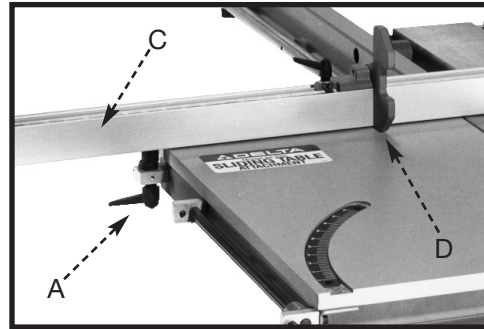

Fig. 69
3. Slide the fence (C) Fig. 69 back on the fence clamps and tighten the lock handles, one of which is shown at (A).
NOTE: When the fence (C) is used in the rear table position (Fig. 69), flip the fence stop (D) to the front.